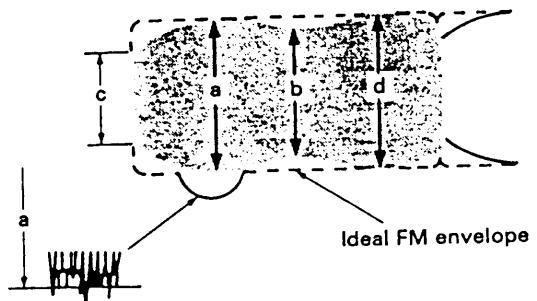
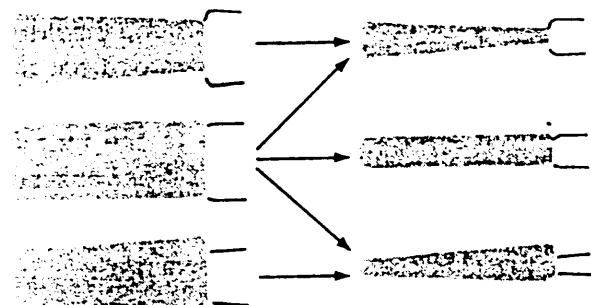

Fig. 7-1 FM waveform (max. output)
Fig. 7-2 Normal waveform examples
- d) Refer to Fig. 7-1. Read the level of portion (a) of the waveform. If the waveform is serrated at point (a), read the value at the most uniform serrations as shown above in Fig. 7-2.
- a) Observe the FM waveform as in the previous section (I-A) and turn the Tracking control. The waveform variation should be nearly parallel as shown in Fig. 7-2.